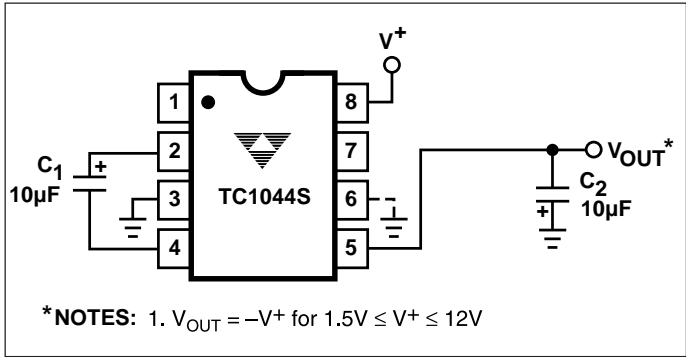
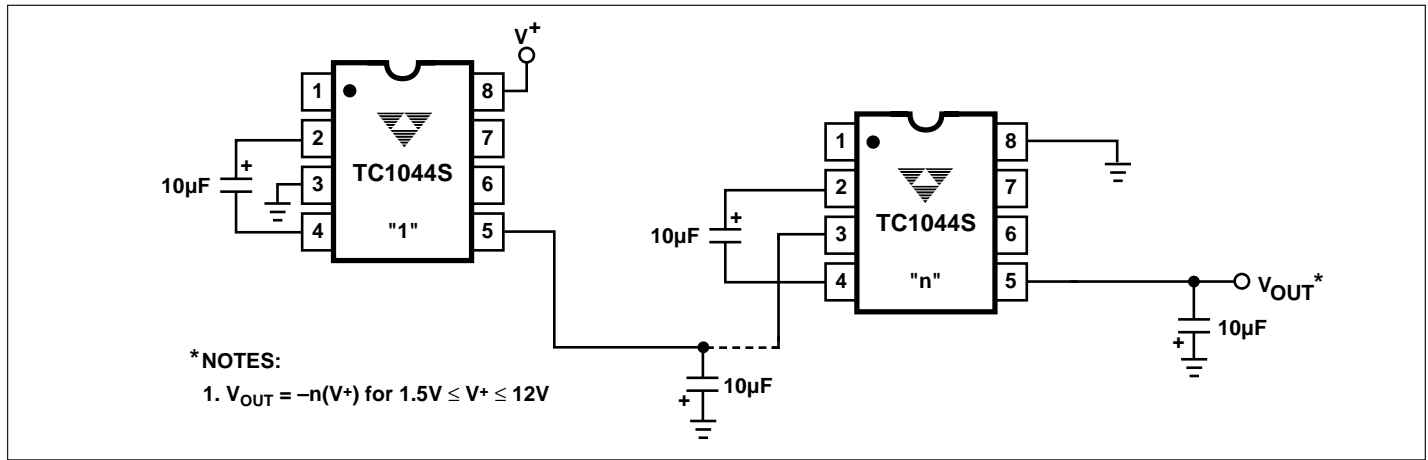
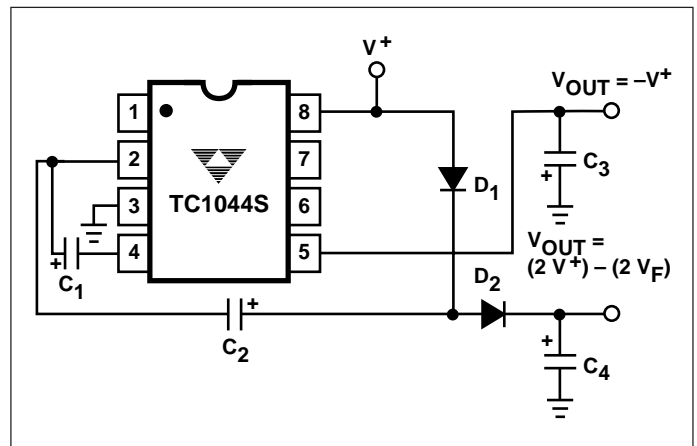
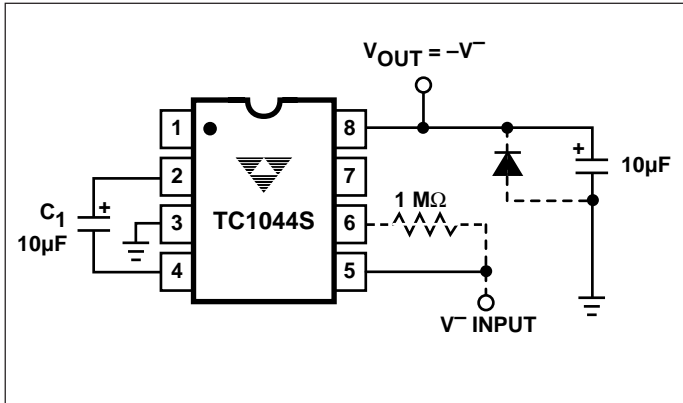

Figure 3. Simple Negative Converter
Figure 5. Increased Output Voltage by Cascading Devices
Figure 9. Combined Negative Converter and Positive Multiplier
Figure 10. Positive Voltage Conversion
Figure 3 shows typical connections to provide a negative supply where a positive supply is available. A similar scheme may be employed for supply voltages anywhere in the operating range of +1.5V to +12V, keeping in mind that pin 6 (LV) is tied to the supply negative (GND) only for supply voltages below 3.5V.
The output characteristics of the circuit in Figure 3 are those of a nearly ideal voltage source in series with 70Ω. Thus, for a load current of -10mA and a supply voltage of +5V, the output voltage would be -4.3V.
The TC1044S may be cascaded as shown (Figure 5) to produce larger negative multiplication of the initial supply voltage. However, due to the finite efficiency of each device, the practical limit is 10 devices for light loads. The output voltage is defined by:
Figure 9 combines the functions shown in Figures 3 and 8 to provide negative voltage conversion and positive voltage multiplication simultaneously. This approach would be, for example, suitable for generating +9V and -5V from an existing +5V supply. In this instance, capacitors  $C_1$  and  $C_3$  perform the pump and reservoir functions, respectively, for the generation of the negative voltage, while capacitors  $C_2$  and  $C_4$  are pump and reservoir, respectively, for the multiplied positive voltage. There is a penalty in this configuration which combines both functions, however, in that the source impedances of the generated supplies will be somewhat higher due to the finite impedance of the common charge pump driver at pin 2 of the device.
Since the switches that allow the charge pumping operation are bidirectional, the charge transfer can be performed backwards as easily as forwards. Figure 10 shows a TC1044S transforming -5V to +5V (or +5V to +10V, etc.). The only problem here is that the internal clock and switch-drive section will not operate until some positive voltage has been generated. An initial inefficient pump, as shown in
Figure 9, could be used to start this circuit up, after which it will bypass the other ( $D_1$  and  $D_2$  in Figure 9 would never turn on), or else the diode and resistor shown dotted in Figure 10 can be used to "force" the internal regulator on.
The same bidirectional characteristics used in Figure 10 can also be used to split a higher supply in half, as shown in Figure 11. The combined load will be evenly shared between the two sides. Once again, a high value resistor to the LV pin ensures start-up. Because the switches share the load in parallel, the output impedance is much lower than in the standard circuits, and higher currents can be drawn from the device. By using this circuit, and then the circuit of Figure 5, +15V can be converted (via +7.5V and -7.5V) to a nominal -15V, though with rather high series resistance (~250Ω).